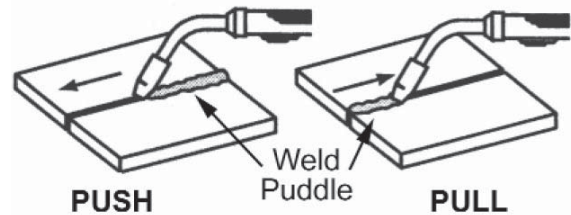

Figure 10. Travel Direction
**1. TRAVEL DIRECTION** is the direction the gun is moved along the weld joint in relation to the weld puddle. The gun is either PUSHED (see Figure 10) into the weld puddle or PULLED away from the weld puddle.